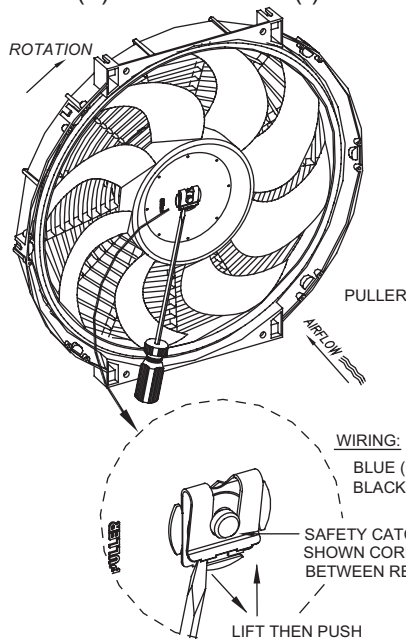

FIGURE 3
1. Disconnect power to the fan. Remove clip as shown. Clockwise as shown. Figure 3